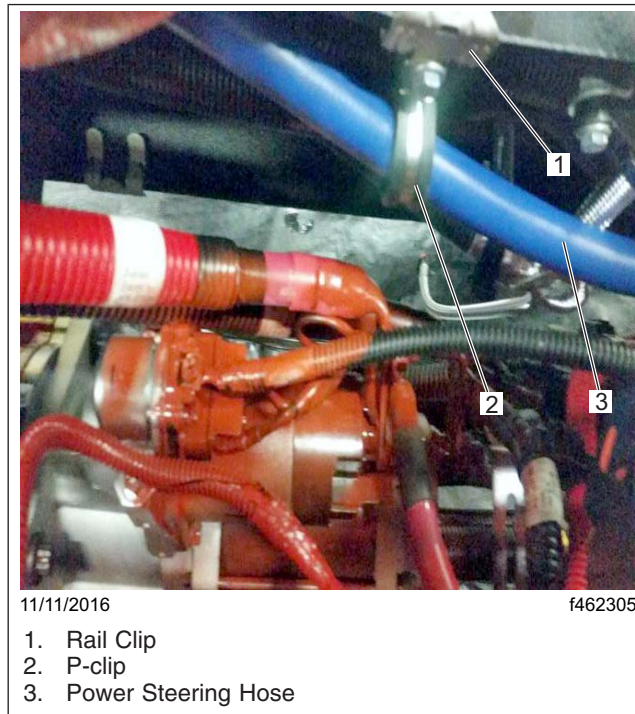

Fig. 1, Power Steering Hose with P-Clip (body removed for clarity)
- 6.1 If the power steering hose is held with a P-clip near the starter stud, no work is needed. See Fig. 1. Clean a spot on the base label (Form WAR259). Write the recall number, FL727, on a completion sticker (Form WAR260), and attach it to the base label.
2. Using a P-clip, bolt, nut, and washer, secure the power steering hose on the rail clip. See Fig. 1. Tighten the nut 72 lbf-in (813 N-cm).